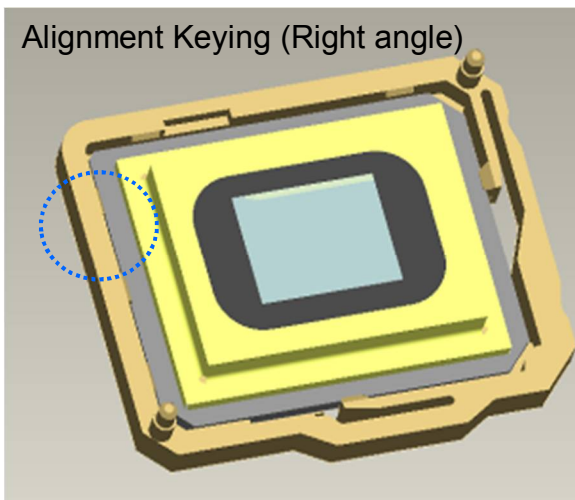

Fig. 4-3
- B. Align keying and Assemble DMD no Socket (Fig. 4-3).